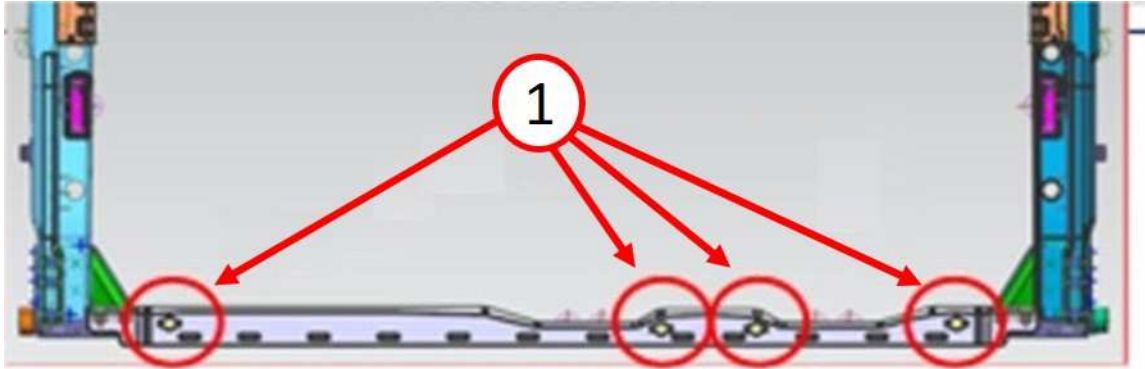

Fig. 1
1. Remove all four over-slam bumpers from multi-function tail gate. (Fig. 1) . Replace any that are missing as needed.